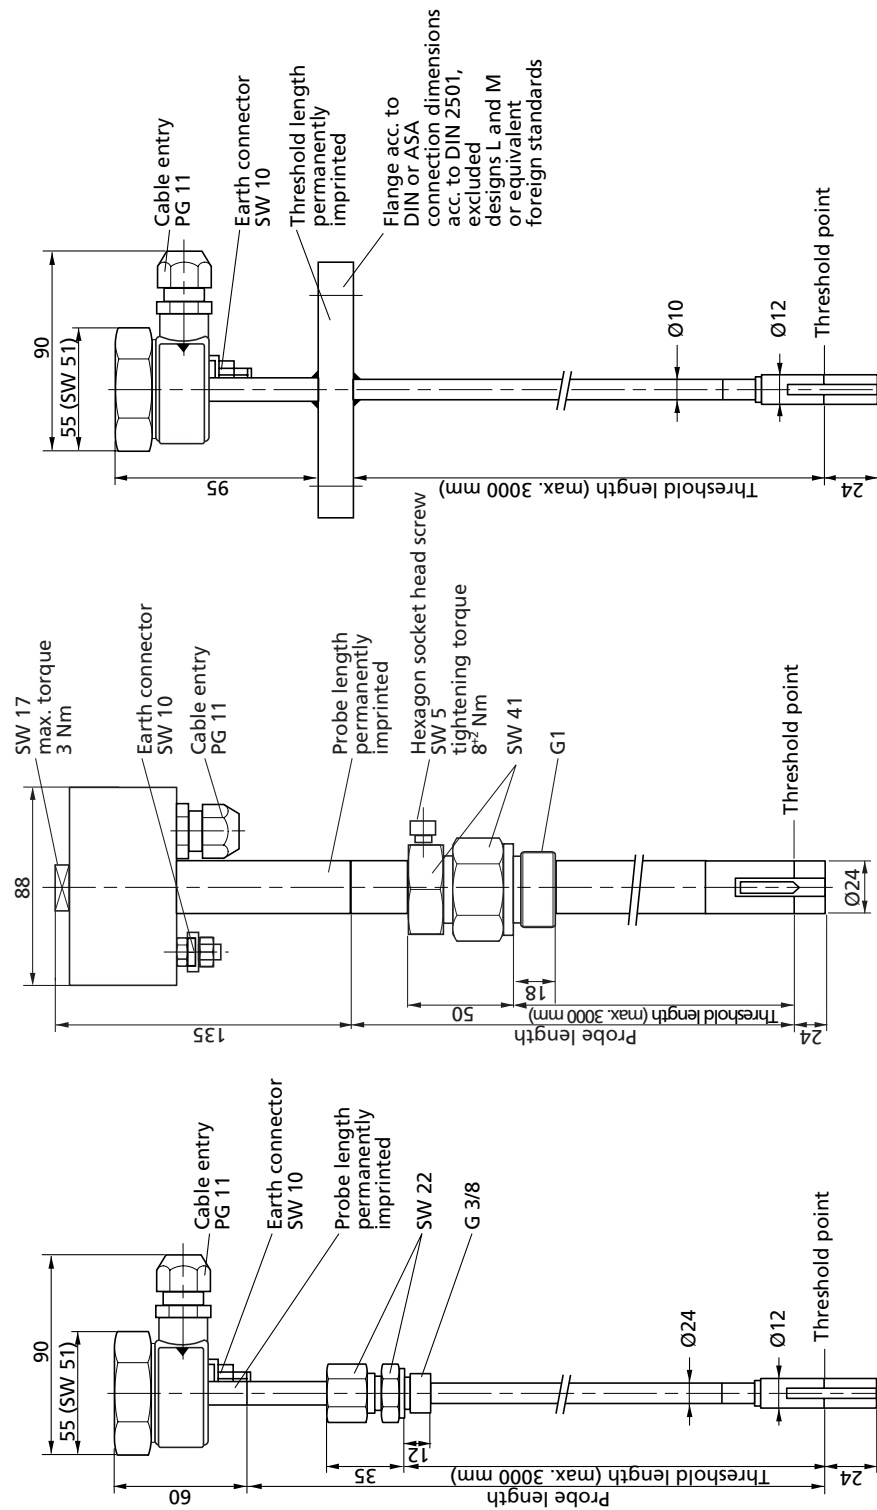

Fig. 2a: Level detectors type LS 300 E, type LS 300 E S and type LS 300 F
The level detector consists of a sensor (encapsulated PTC resistor) and a probe tube which can be adjusted in height with a clampable screw-in unit is permanently mounted using a flange (see figs. 2a–d and chap. "Installation").
The encapsulated PTC resistor serves for detecting the liquid level. Detecting the liquid level is the purpose of the encapsulated PTC resistor in the form of a varying resistance at the threshold point of the level detector, the resistance value of which increases with rising temperature (see figs. 2a–2d).
There are various versions of level detector type LS 300 . available (see figs. 2a–2d): As an optional feature the sensor tip can be supplied in tantalum and parts coming into contact with the product can be made of the materials listed in the section "Materials" or they can be coated additionally with E-CTFE (Halar) (B). All level detectors can also be supplied for -25 °C to +80 °C liquid temperature (H). A non-return valve (R) is compulsory if the pneumatic test pipe is laid permanently.
| LS 300 E | Fig. 2a | Ø 10 x 1,5 | G 3/8 |
| LS 300 ES | Fig. 2a | Ø 24 x 2 | G 1 |
| LS 300 F | Fig. 2a | Ø 10 x 1,5 | DN 15 |
In the case of the level detectors provided with a clampable screw-in unit (G 1 or G 3/8) the individual threshold length for the respective tank can be adjusted by moving the probe tube in the screw-in unit (see figs. 2a–d and chap. "Installation").